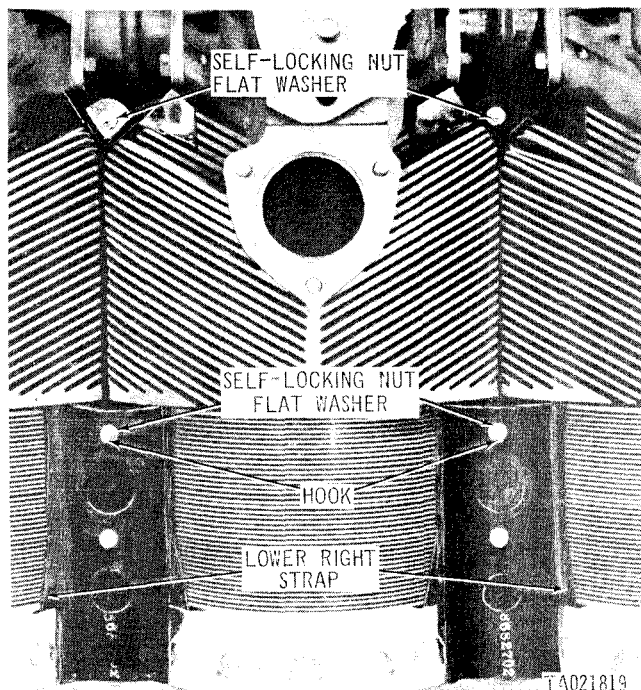

Figure 3-60. Removing or installing inter-cylinder head deflectors and disconnecting inter-cylinder deflector hooks - right side.
c. Remove five self-locking nuts and washers (fig. 3-60) from hooks and remove five intercylinder cylinder head deflectors and hooks. Remove five self-